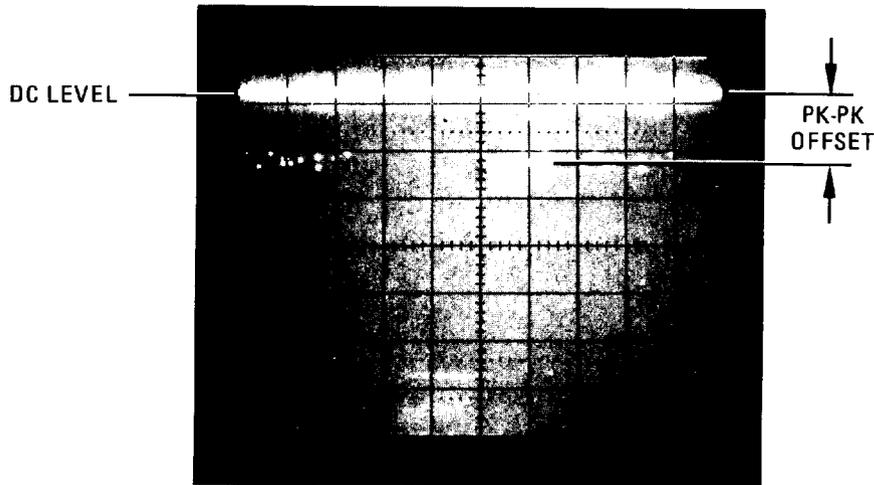

FIGURE 17. FOCUS GAIN ADJUSTMENT WAVEFORM
5. Oscilloscope display should be similar to that shown in Figure 17.